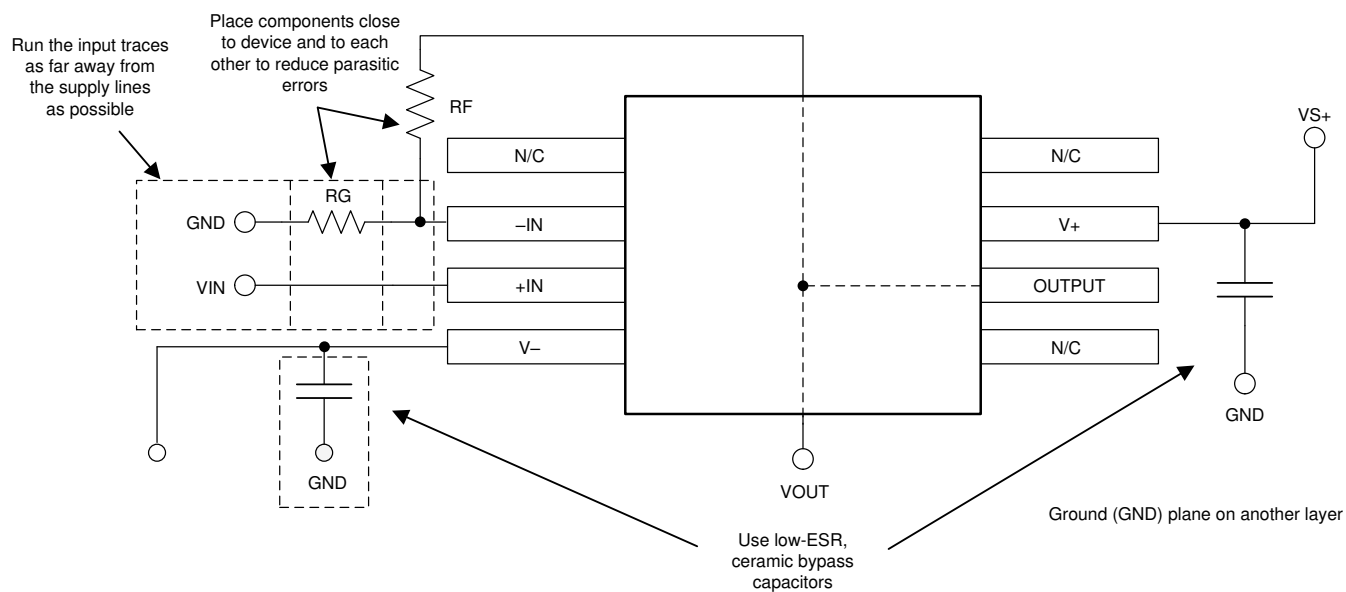

Figure 10-2. Operational Amplifier Board Layout for Noninverting Configuration
- Place the external components as close as possible to the device. As illustrated in Figure 10-2, keep RF and RG close to the inverting input to minimize parasitic capacitance.